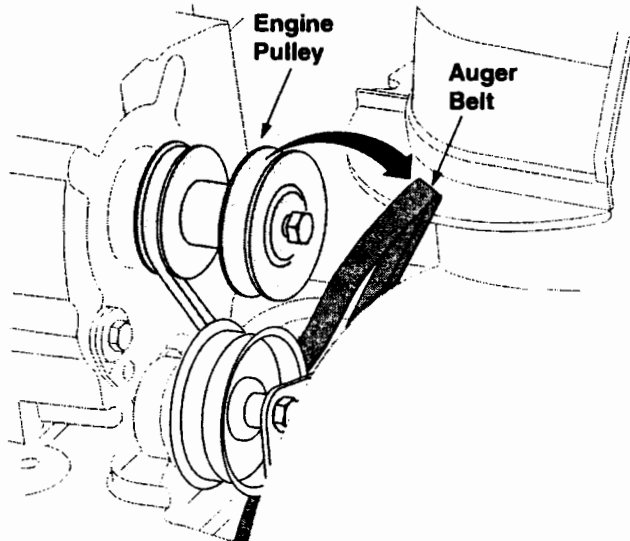

Figure 24
- Take auger belt off the pulley as shown in Figure 24